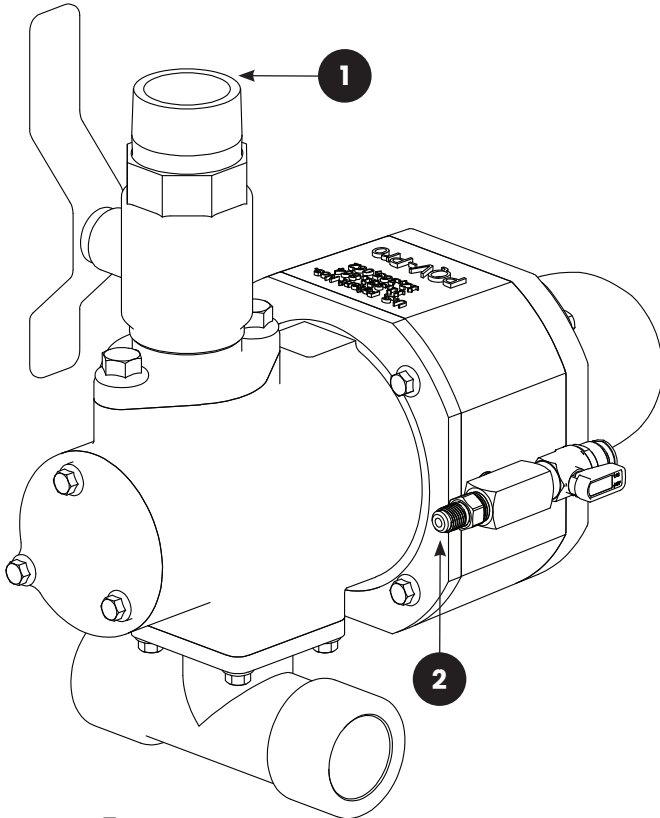

FIGURE 5
2.4.2 | PQV-Pro Install Notes: Figure 5
FIGURE 7: (1) Using 1/4" x 1" Flange Bolts—4, attach to actuator body with o-rings in groove; (2) Adaptor Flange; (3) O-Ring, fits in actuator body flange; (4) Hold shaft with non-marring grips when replacing plunger—See note 1; (5) Turn counterclockwise to remove plunger from shaft, using blue loctite on plunger threads turn plunger in shaft to re-install, see figure 5 for valve plunger seat and gasket replacement; (6) Actuator Body Assembly; (7) **DO NOT REMOVE THESE BOLTS**